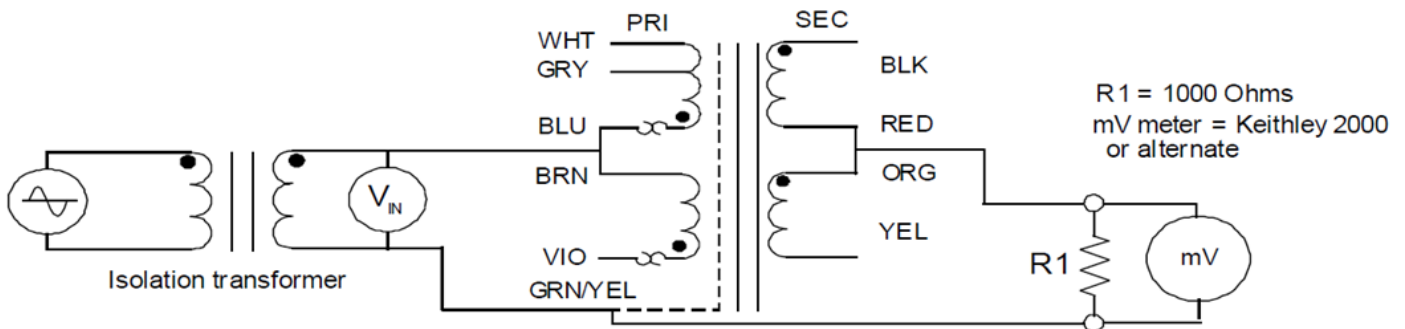
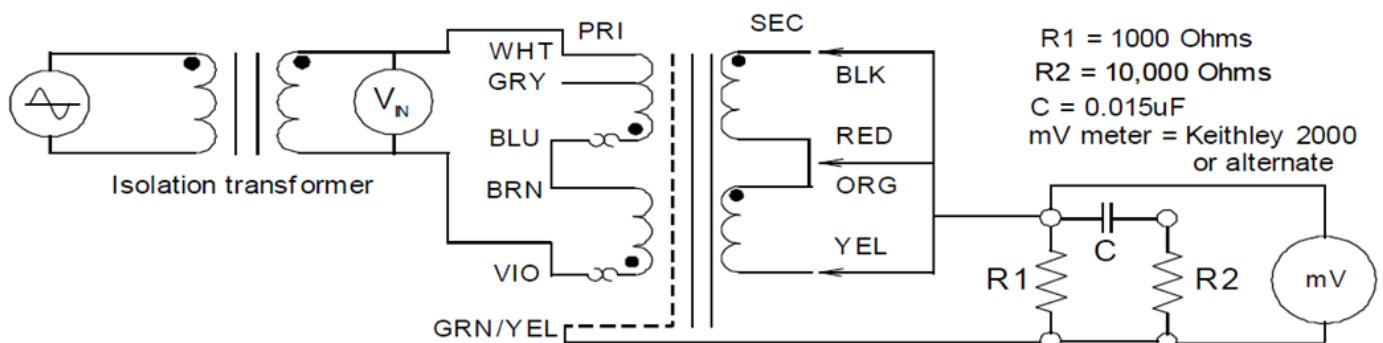

Figure 1
Figure 2
8. Earth Leakage: ≤10μA (See Fig. 1), Patient Leakage: ≤ 25μA (see Fig. 2)